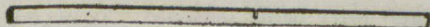

FIG. 4.
J.B.:—The method of kerfing shown in June issue in answer to J.N., does not strike me as being the best by any means. I submit a method herewith which I think is much better. I first lay off my circle, both inside and outside, giving the thickness of the lumber bent, as at Fig. 3, where AB represents the spring line of the arch, C the centre of the circle. From C I draw a straight line at right angles with AB, extending it indefinitely and bisecting the circle at D. I then take a strip of the same thickness as that I desire to kerf and saw in a kerf as indicated in Fig. 4, using the same saw that I expect to use in kerfing. I then lay the strip on as shown by the dotted lines of Fig. 3, and bend the strip until the kerf closes. I then mark the circle at E, which gives the desired distance. After this I set my compasses from E to D of Fig. 3, and step off the same number of spaces to be bent and proceed to kerf. If in stepping off the kerfs the latter do not come out all right at the spring line, I usually close the compasses up and make an extra cut, rather than leave one out. Of course the stuff must be gauged to show how deep the saw must go.